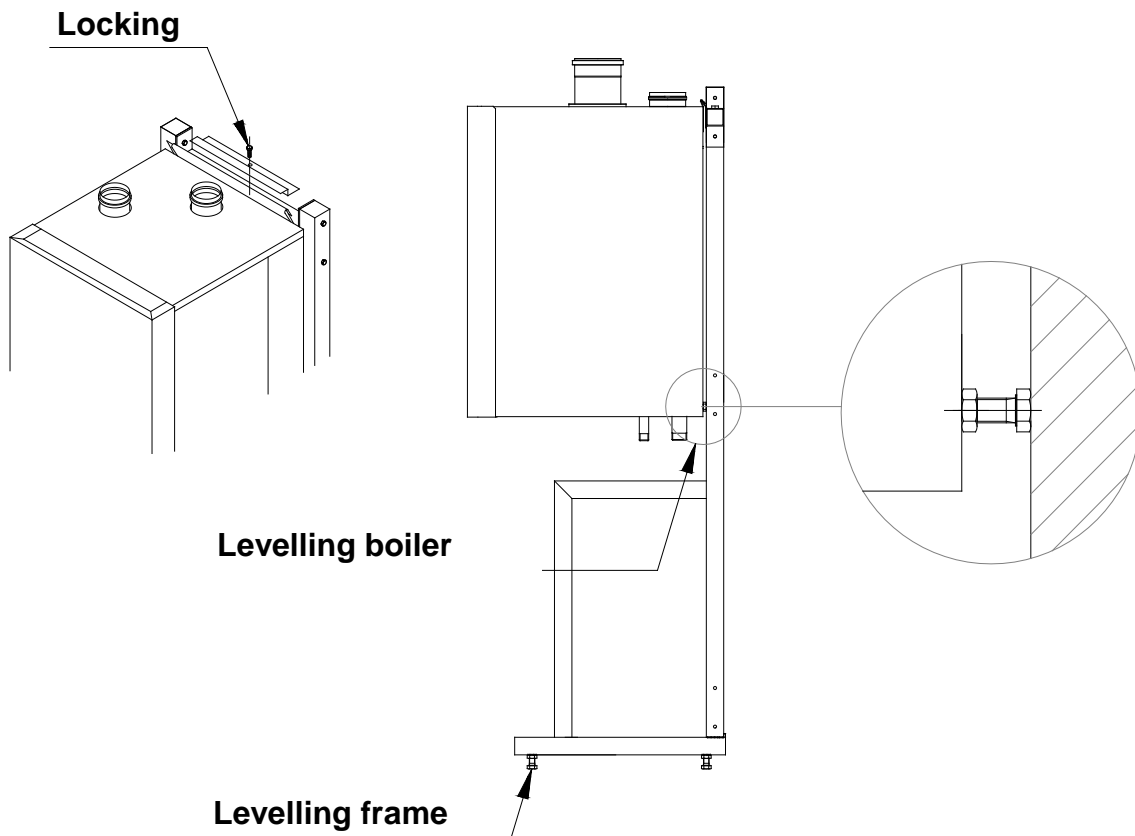

Figure 10.1 Mounting details
1. Before mounting the boiler on the frame, ensure that the frame is level both horizontally and vertically. If necessary adjust with the adjusting bolts on the lower side of the frame (see Figure 10.1).
5. Make sure that the boiler is at the right position (near level). The boilers must hang backwards slightly ($1^\circ \pm 0.5^\circ$). If necessary, adjust with the adjusting bolts on the lower rear side of the back panel (see Figure 10.1). When the adjusting bolts are **not** sufficient, the space behind the bolts needs to be filled to achieve the correct position.